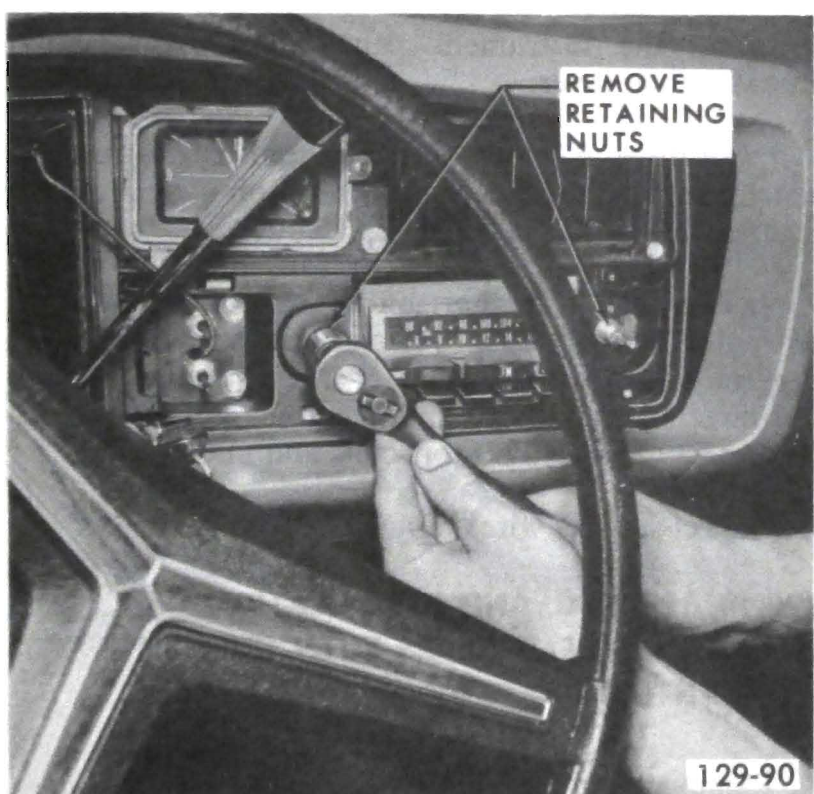

Figure 129-5
3. Remove the retaining nuts (2) from the threaded portion of the control shaft. See Figure 129-5.
4. Install the two (2) retaining nuts on the threaded portion of the control shaft. See Figure 129-5.